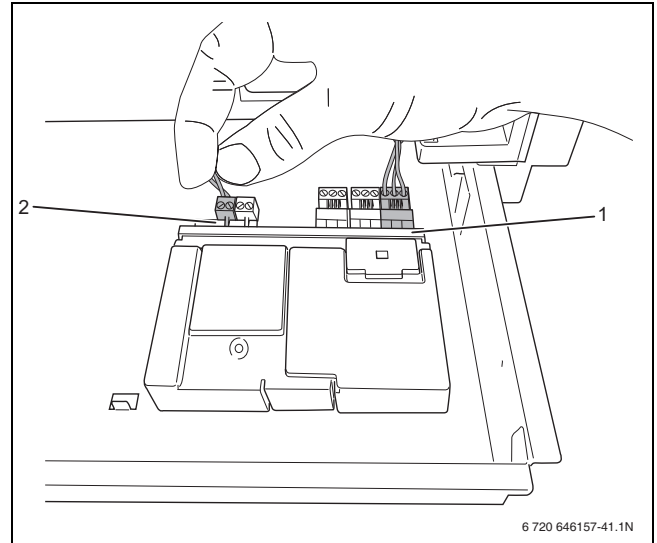
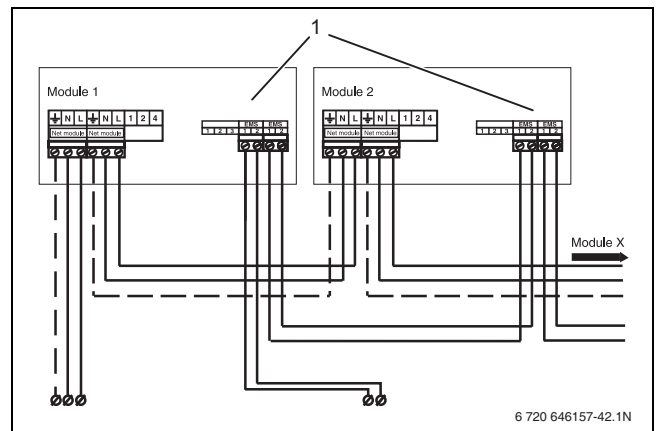

Fig. 44 Interconnecting modules
Fig. 45 Connecting several modules
- The module may have the letters RC or EMS above the connection (→ fig. 45, [1]).
- Connect the free connector of the EMS bus connecting cable (→ fig. 44) to the first module (→ fig. 45).
- If more modules are used, the EMS bus connection for the second module may be branched off from the first module using the cable enclosed with the module (→ fig. 44 and fig. 45).
- Connect the wire from terminal 1 to terminal 1 and from terminal 2 to terminal 2 (→ fig. 44 and fig. 45).